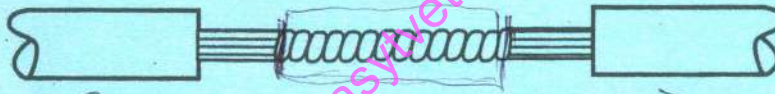

Fig. 1
- (d) Figure 1 shows a type of joint of an electrical cable;